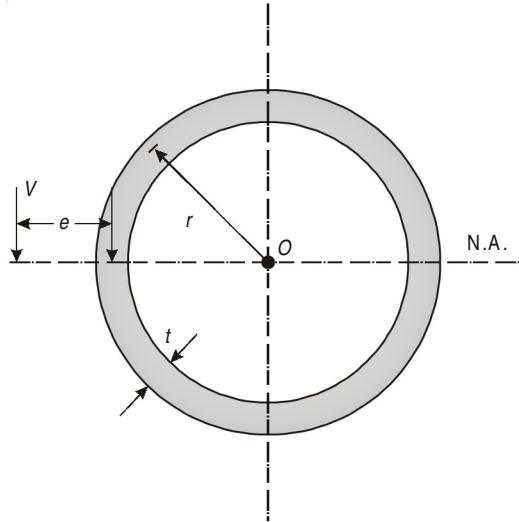

Fig. 12.24
- 12.1. Calculate the distance e location of the shear center O . Assume constant thickness of the section. (Fig. 12.24)